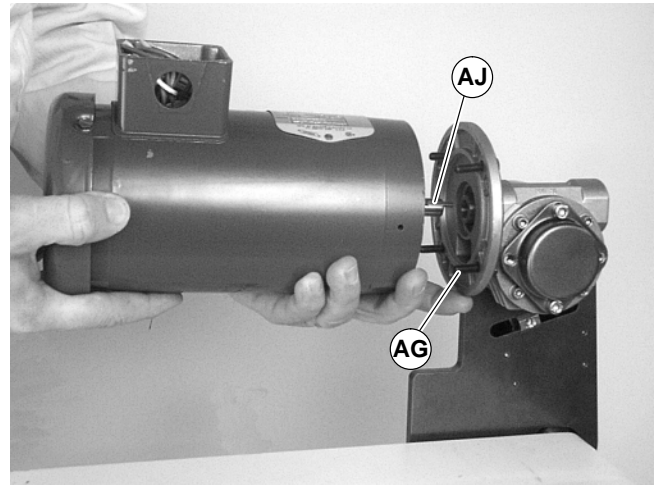

Figure 25
5. With key (AJ of Figure 25) in keyway, slide motor and gear reducer together. Install screws (AG) and tighten.